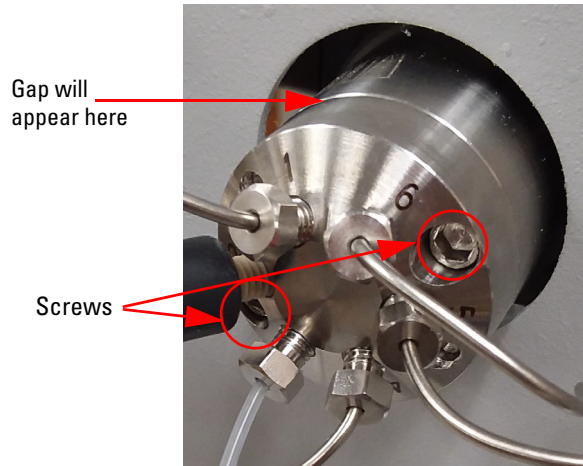

Figure 6-5 Location of screws on the stator retainer
1. Use the supplied $\frac{9}{64}$ " hex key to remove the 2 screws that retain the stator (the portion of the inject valve with the tubing connections). These should be loosened in quarter turn increments until the tension is removed and a gap starts to appear (Figure 6-5).